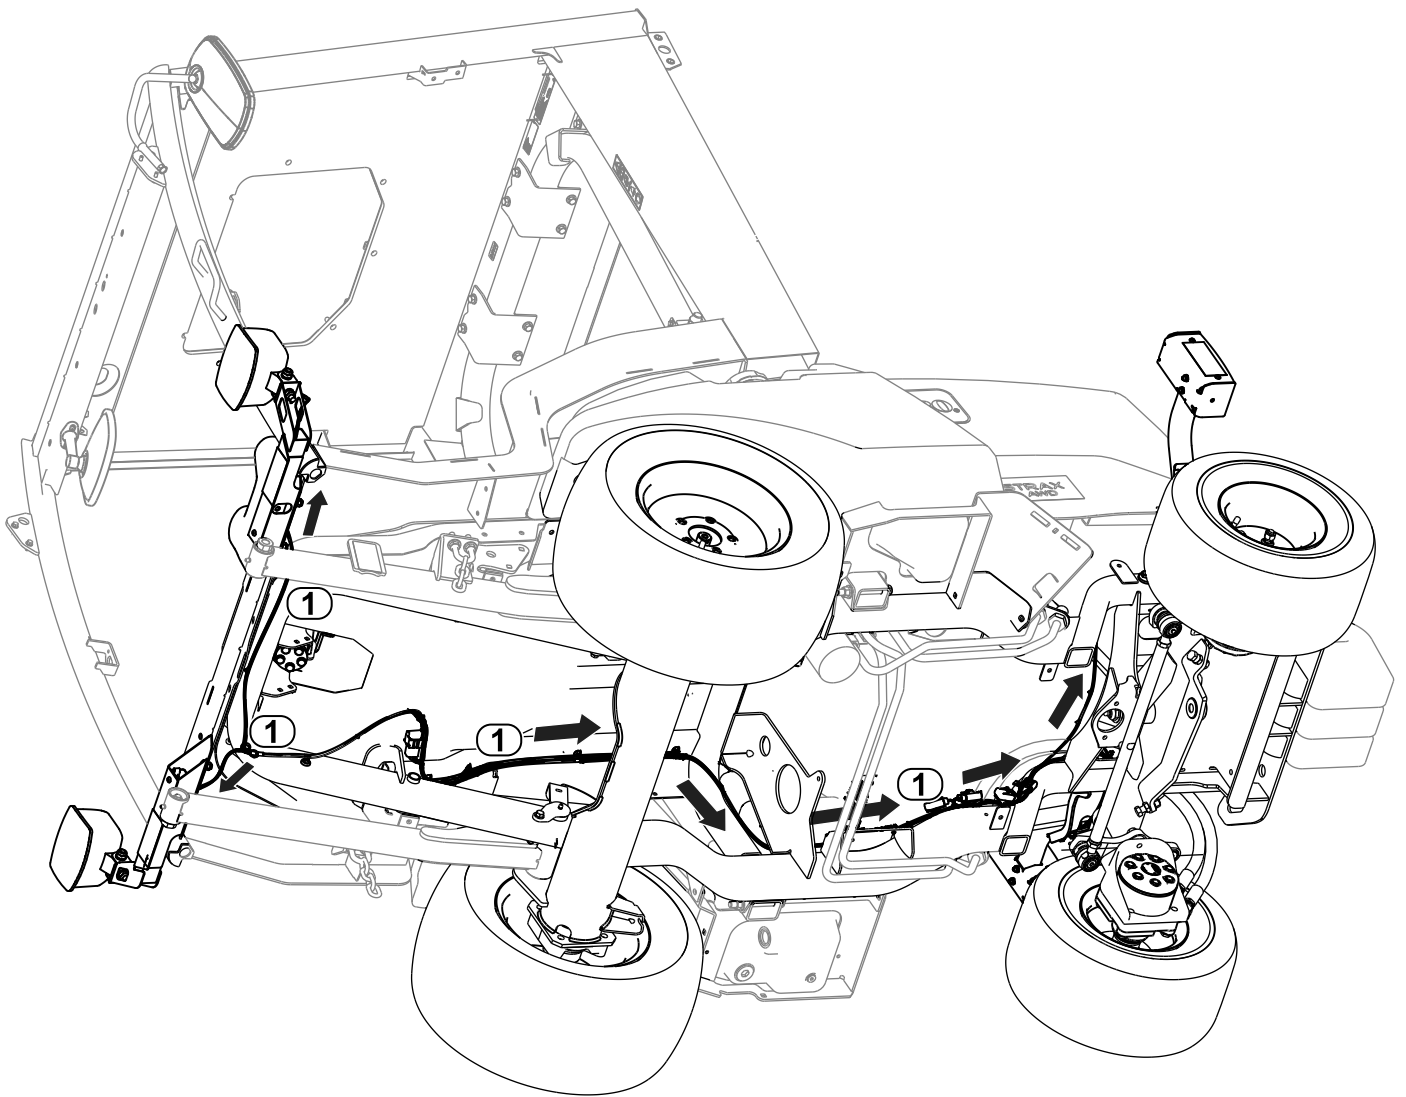

Figure 35
1. Route the wire-harness connector labeled FRONT LIGHT LH (P04) to the left side of unit. Connect harness to light (Figure 35).
2. Route the wire-harness connector labeled FRONT LIGHT RH (P05) to the right side of unit. Connect harness to light (Figure 35).
3. Route the wire-harness connector labeled REAR LIGHT LH (P01) to the rear left side of unit (Figure 35).
4. Route the wire-harness connector labeled REAR LIGHT RH (P02) to the rear right side of unit (Figure 35).
- Connect the wire-harness connector labeled REAR LIGHT LH (P01) to rear light (Figure 35).
- Connect the wire-harness connector labeled REAR LIGHT RH (P02) to rear light (Figure 35).